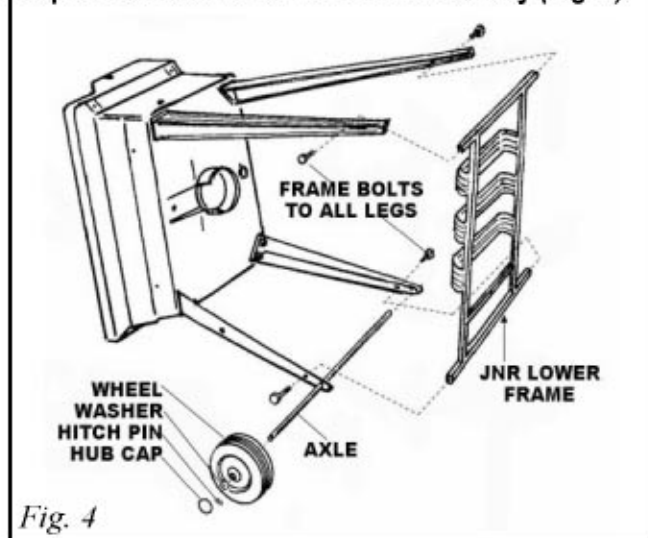

Fig. 4
- (B) JCP and JCN (Fig. 4) carts use (4) 1/4-20x 3/4" slotted head bolts to fasten the frame at all 4 corners.
Step 3: JCP3/JCN3 Lower Shelf Assembly (Fig. 4)